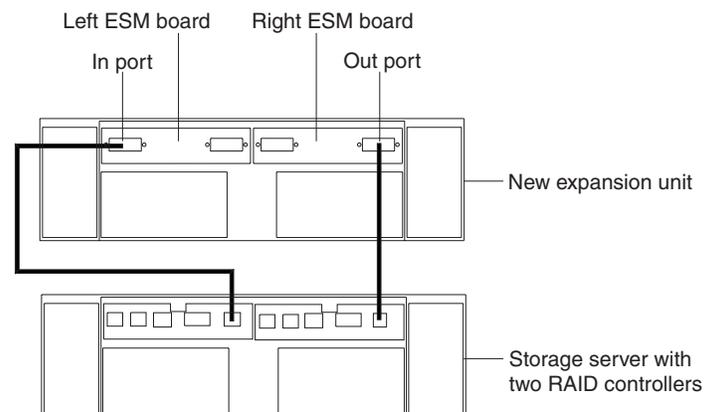

Figure 33. Adding an expansion unit
2. Use the following procedure and Figure 33 to connect a single expansion unit to the storage server: